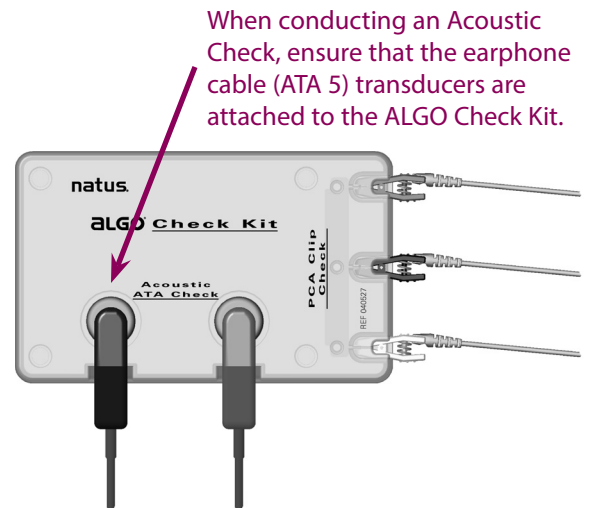

FIGURE 8
- e. If ambient noise is still excessive, select **Equipment Check (press F5 key)** from the Main Window display and perform an **Acoustic Check (ATA Check)**. You will need the **ALGO Check Kit (REF 040527)** to perform an Acoustic Check (Refer to Figure 8).